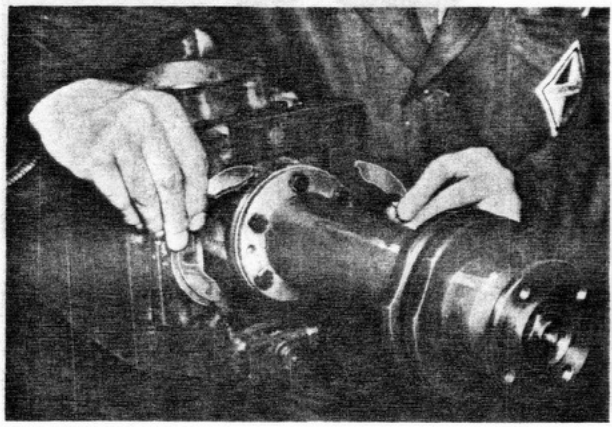

Fig. 22
10. Fix basic measurement "A" by use of the special shims under the ball-race housing (Fig. 22). Taking care that every time a measurement is taken, the screws holding down the housing neck are tightened down, as only in this way can the correct result be obtained.